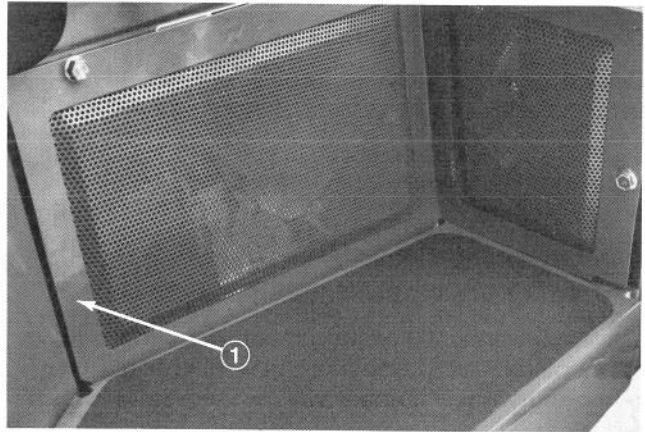

Figure 3
PUSH MACHINE OFF PALLET (Fig. 3–4)
1. Remove (3) screws securing side panel from left side of machine and remove panel (Fig. 3).
2. Through slot in rear panel, remove (2) wing nuts, washers and battery hold downs securing battery to frame. Slide battery forward and remove.